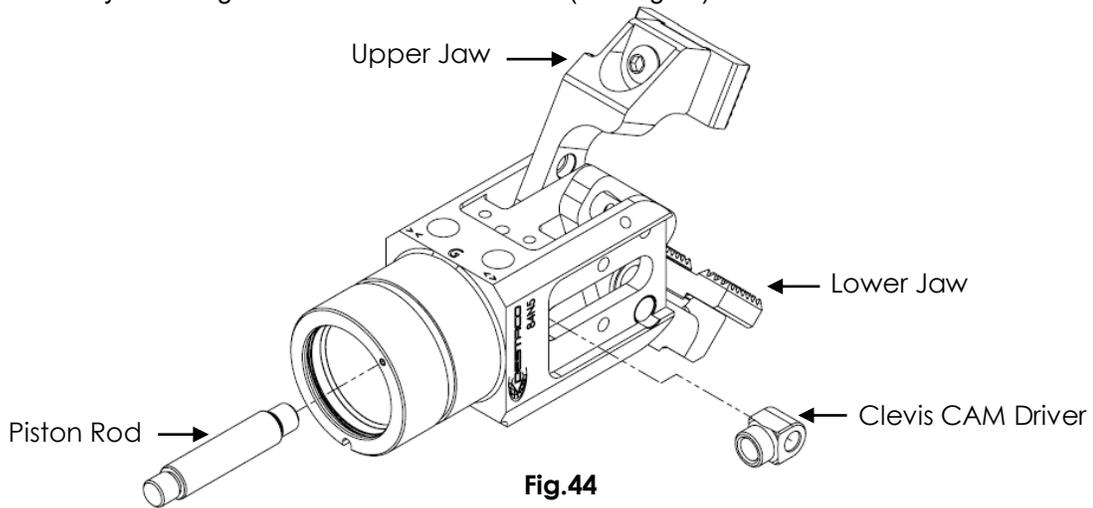

Fig.44
16. Mount the Clevis CAM Driver thru the trident structure on the body. Apply Loctite 271 or equivalent to one of the threaded ends of the piston rod. Insert the piston rod thru the cylinder bore into the clevis CAM driver. Turn clockwise securely fastening it into the clevis CAM driver (see Fig.44).